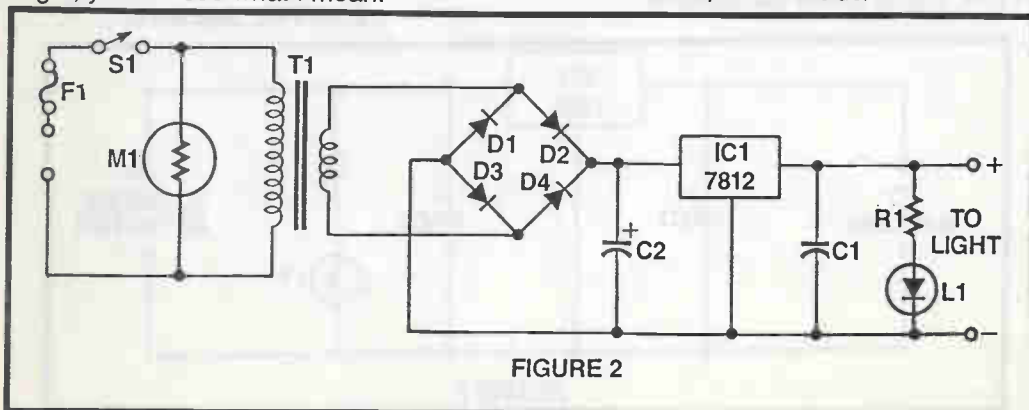

FIGURE 2
PARTS LIST FOR FIGURE 2:
Step 6. (Refer to Fig. 2). Place the tuning capacitors,